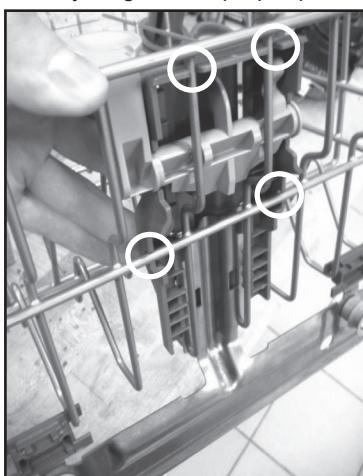

FIGURE 8
10. With the adjuster actuator resting inside the adjuster body, the entire adjuster arm assembly can be pushed up against the vertical tines. You should see that four (4) half circle cut-outs on the adjuster body line up with specific tines. This will confirm that everything is in its proper place. See *Figure 8*.